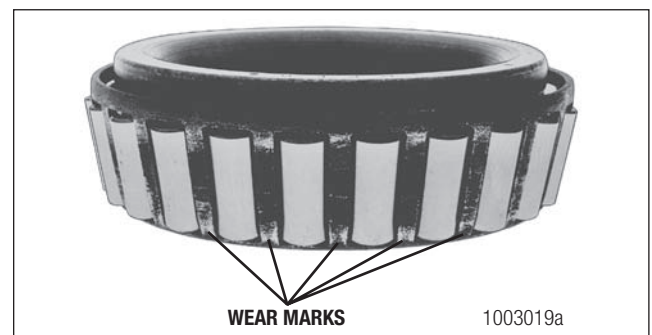

Figure 6.3
- Bright wear marks appear on the outer surface of the roller cage. Figure 6.3.